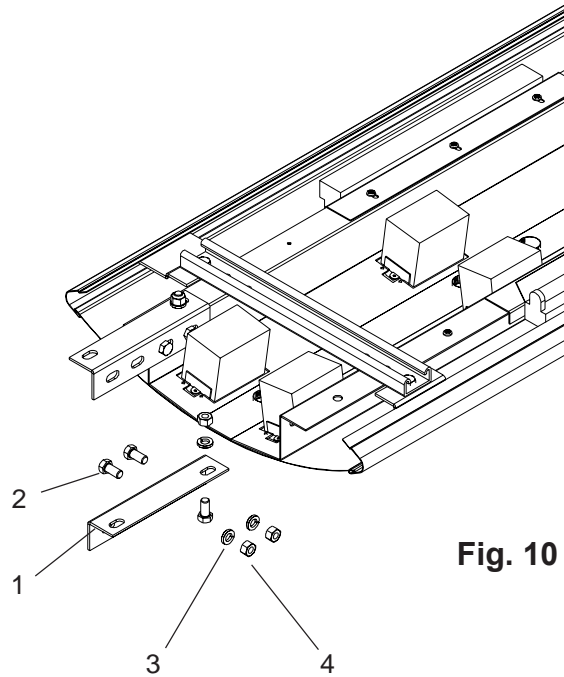

Fig. 10
1. Position item #1 (Splice Angle) over holes in Carrier Assembly (see Fig. 10).